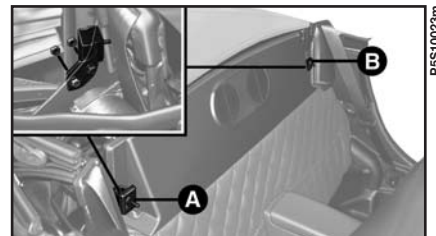

fig. 69
1) Fit the side brackets **A** and **B** fig. 69 in the holes on the internal sides of the car, on the right and on the left.
2) Fasten the side brackets **A** and **B** to the body with the nuts and screws provided. Insert the screws and the washers from the outside of the body side and fasten the brackets from the inside with the nuts, fig. 69.